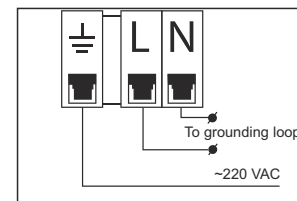

Fig. 6
- Connect the electric cable wires with the terminal block according to the appliance marking (refer to Fig.6);